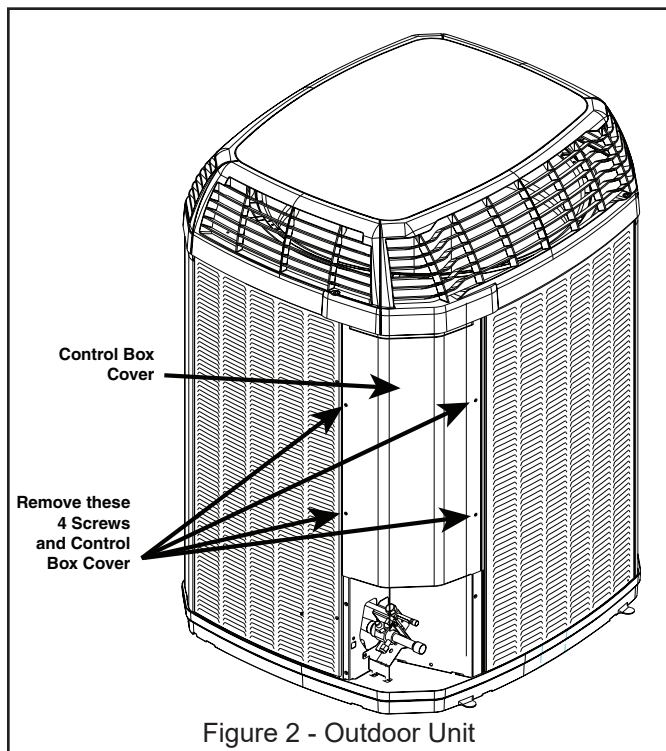

Figure 2 - Outdoor Unit
2. Remove the 4 screws securing the Control Box cover and place screws and cover aside (See "Figure 2 - Outdoor Unit").